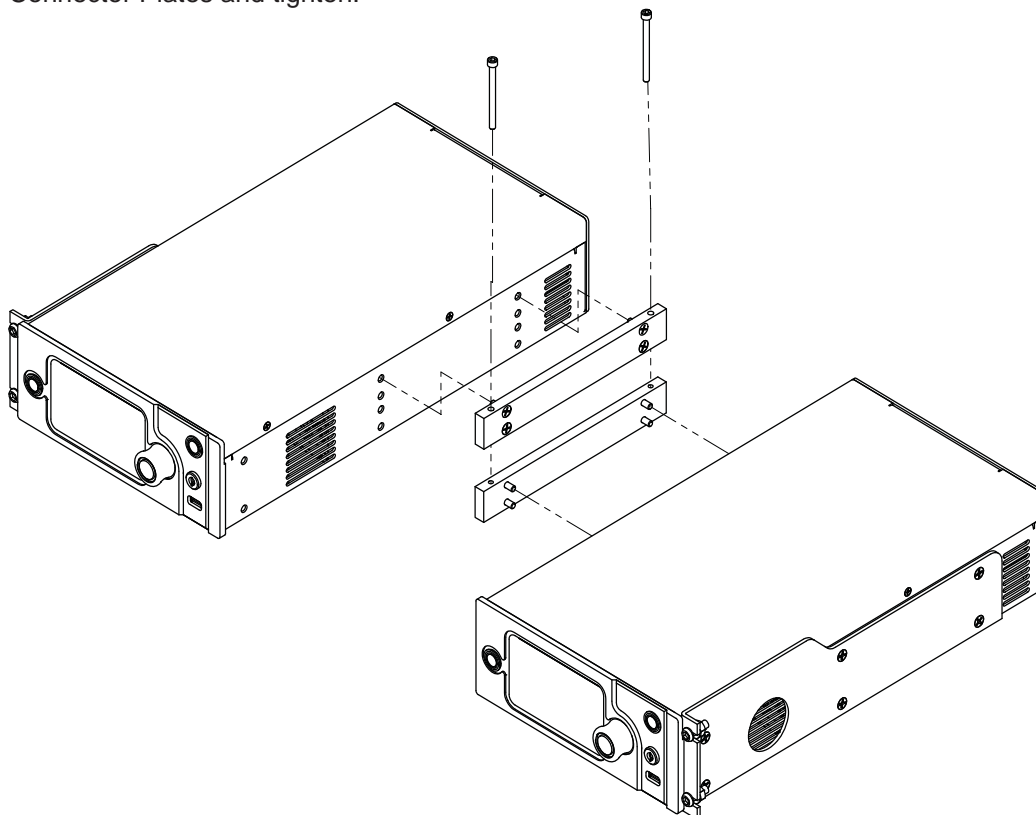

Figure 10. Join Connector Plates
5. Put the two instruments together as shown in Figure 10. The Connector plates should offset each other and the screw holes should align with the threaded Connector plate on the bottom. Insert two #10 Socket Head 2" screws into the two holes on the Connector Plates and tighten.